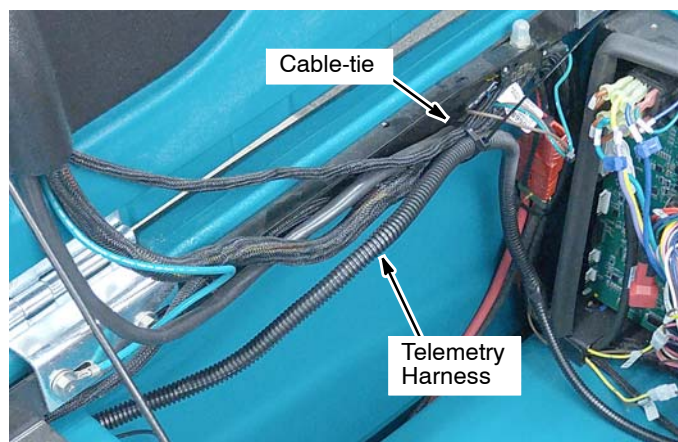

FIG. 7
6. Cut cable-ties securing telemetry harness to main machine harness (FIG. 7).